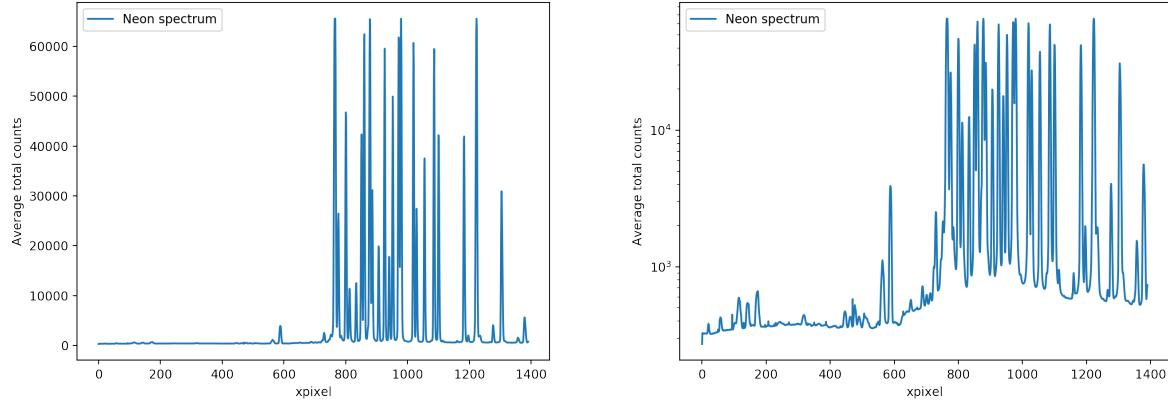

Fig. 22: A typical Neon spectrum (averaged in the ypixel direction) plotted with the y-axis with linear (left) and logarithmic (right) scaling.
- Cell 9: In this cell the Neon spectrum is extracted and plotted (see an example of such a spectrum in Figure 22, right). The default scaling of the y-axis is logarithmic but it can be set to linear as well by removing "plt.yscale('log')" (see Figure 22, left). Clearly many lines are visible in the figure, with nearly all of them toward the red part of the spectrum (toward higher pixel values) and only a few toward the blue part. As can be seen, some of the lines are saturated because they have a maximum value of ~ 65 thousand (when averaged in the ypixel direction). For nighttime data reduction the Neon spectra at the source and the background position are extracted and plotted in the same figure. In addition, a zoom of the xpixel range 600-800 is shown. In this figure it is clear that the pixel-to-wavelength calibration is different for the source region than for the background region. Therefore, the final background spectrum cannot be straightforward be subtracted from the source spectrum. Therefore, we will keep working with the individual spectra.
- Cell 10: In order to perform the wavelength calibration we need a line with a known wavelength that is not in crowded region and relatively central in the CCD. The best line for this is the line closest to xpixel 600 as seen in Figure 22, right. This line has a known wavelength of 5400.5616 Å. The notebook will search between xpixel 550 and 650 for the xpixel with the highest value and assumes this xpixel corresponds to the wavelength of this line. In case that the Neon spectrum is shifted compared to Figure 22, you have to adjust the *startx* value in the cell to make sure the program searches the right xpixel range. For the nighttime data